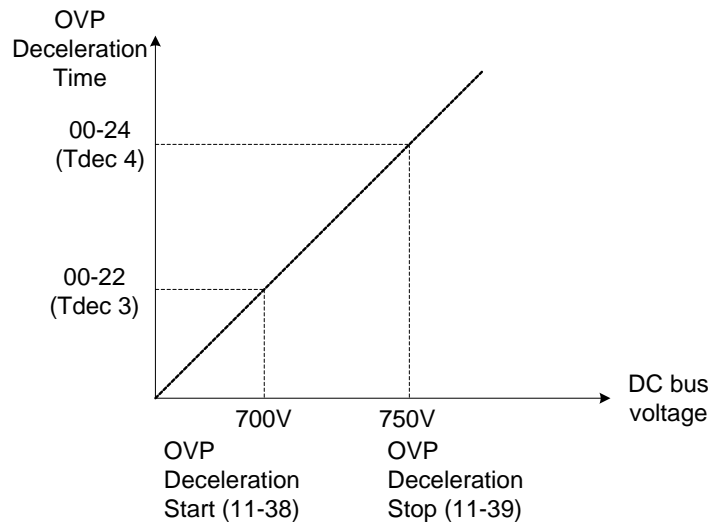

Figure 4.3.92 OVP deceleration time
When the regenerative energy decreases, the inverter output frequency will return to the actual frequency reference. Deceleration rate is based on the DC voltage, as shown in Figure 4.3.92.
3) When the inverter is stopped, the deceleration rate can be set with parameter 00-15 (Tdec1). In case the DC voltage is too high, the inverter will decelerate based on the OVP deceleration time as shown in Figure 4.3.92.